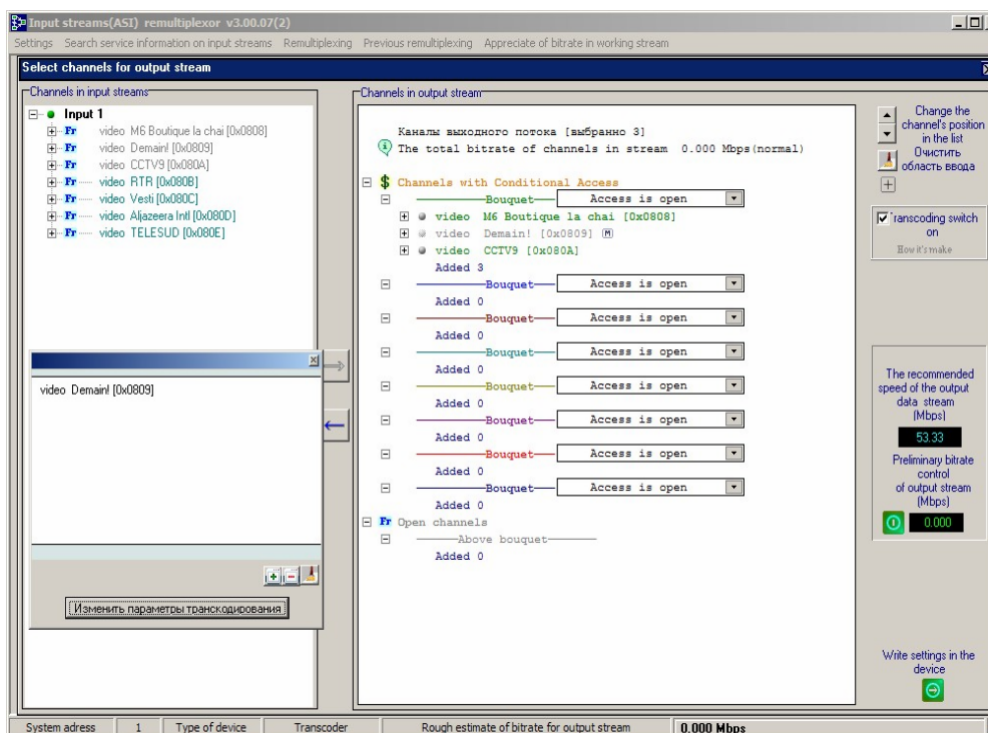

Fig.3.14
- Select input programs that you wish to add to the output stream and drag them with mouse to the right window (Fig. 3.14).
Having made the required changes, click "OK" and the previous window will return(Fig. 3.14)